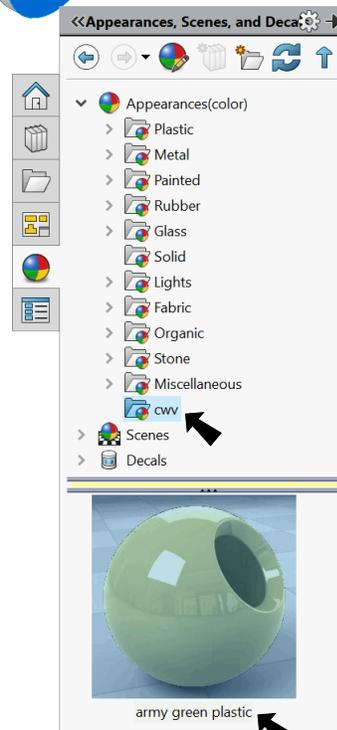

Fig. 33
Step 2. In the Appearances Task pane at the bottom select **CWV** and in the lower pane select **army green plastic**, Fig. 33.